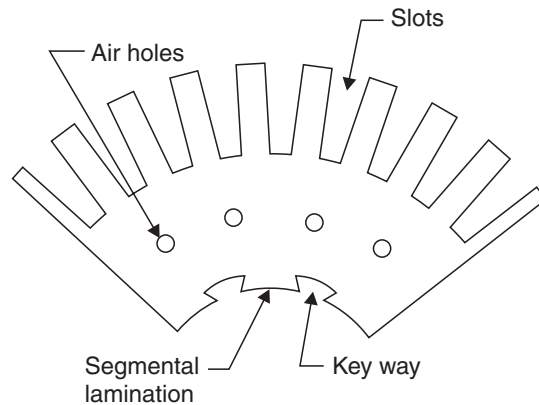

Fig. 9. Segmental stampings.
- In case of *large machines*, the laminations of such thin sections are difficult to handle because they tend to distort and become wavy when assembled together. Hence, circular laminations instead of being cut in one piece are cut in a number of suitable sections or *segments* which form part of a complete ring (see Fig. 9). A complete circular lamination is made up of four or six or even eight segmental laminations. Usually two keyways are notched in each segment and are dove-tailed or wedge shaped to make the laminations self-locking in position.